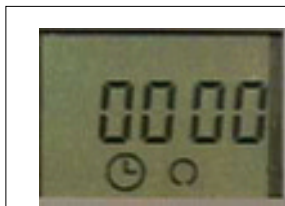

Fig. 6
- Press and hold the \ominus button (see fig 6).